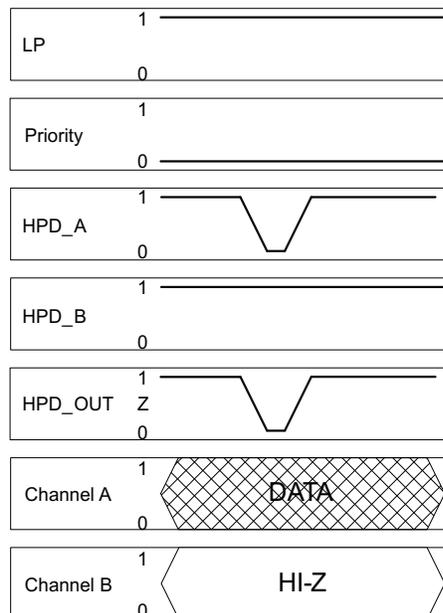
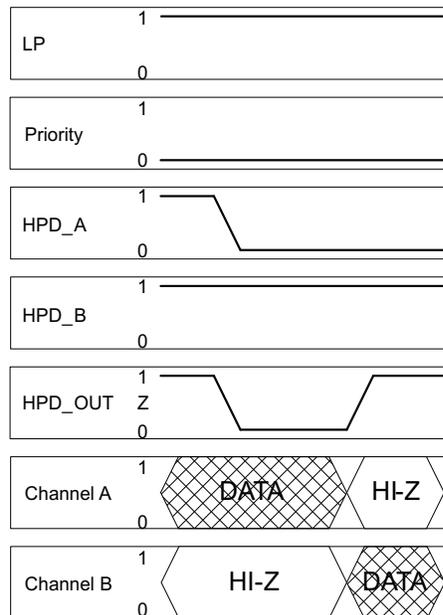

Figure 22.
Figure 23.
- Case two: In this case both HPD inputs are initially HIGH and the selected port has been determined by the state of the priority pin. The HPD output logic state follows the state of the selected HPD input. If the HPD input pulses LOW, the HPD output to the source also pulses LOW for the same duration of time, again with a slight delay (see Figure 22). If the duration of the LOW pulse exceeds  $t_{T2(HPD)}$ , the device assumes that an unplug event has occurred and the other port is selected (see Figure 23). The case in which the previously selected port with priority goes high again is covered in scenario 3.